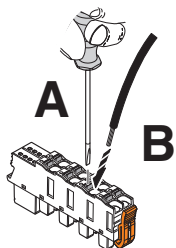

Figure 8-3 Connecting a stranded cable
- Open the spring by pressing the screwdriver onto the spring lever (Figure 8-3, A). Use, for example, a bladed screwdriver with a blade width of 2.5 mm. Phoenix Contact recommends the SZS 0,4x2,5 screwdriver (see Section "Ordering data" on page 130).
- Insert the cable in the terminal point (B).